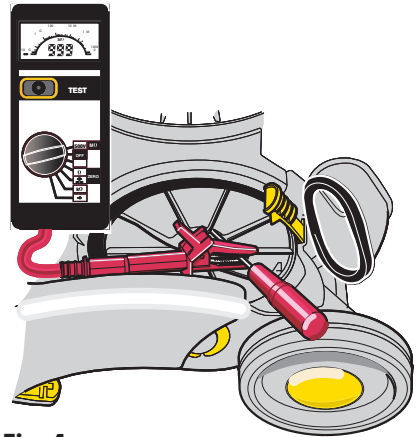

Fig. 1
4. Connect the red crocodile clip to a terminal screwdriver. Insert the screwdriver into the motor retainer until there is contact with the motor fan case (Fig.1). Press and hold the test button and note the final reading.